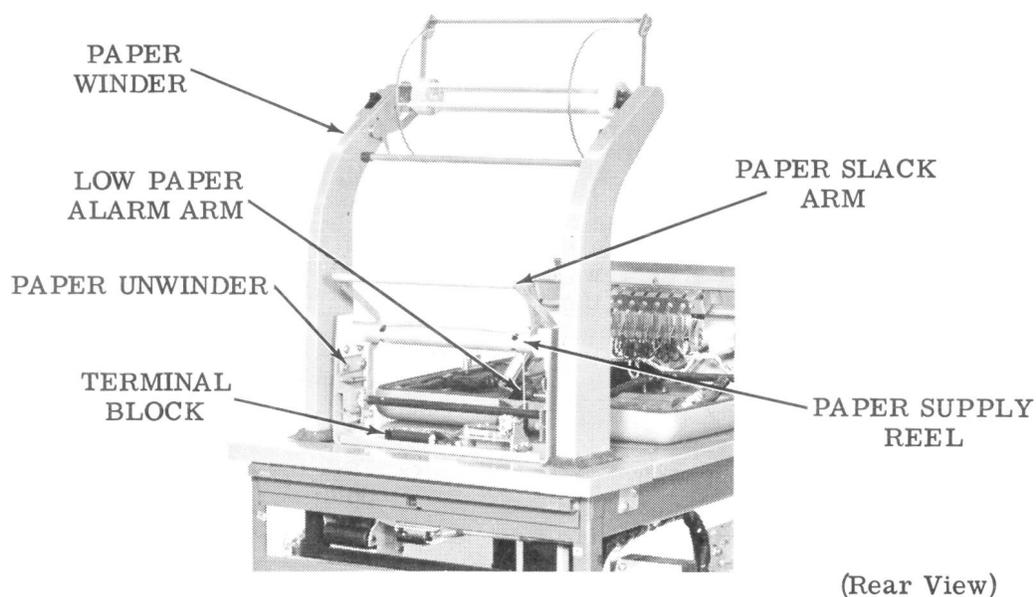

Figure 6 - Top Deck of Printer Showing Paper Unwinder and Paper Winder.
2.15 The paper unwinder is mounted at the rear of the sliding panel at the top of the cabinet (Figure 6). It consists of the paper supply reel and slack arm, and the low paper alarm arm and switch.